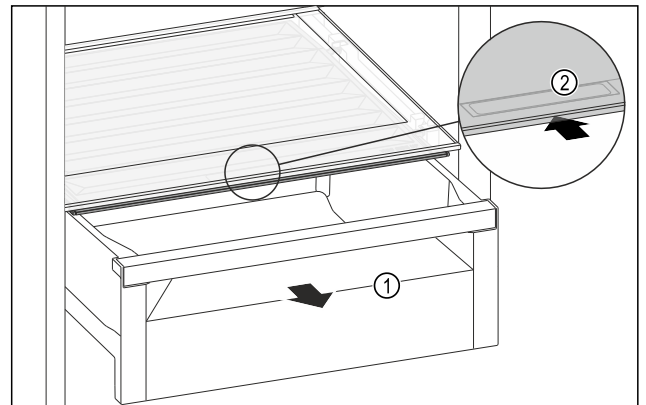

Fig. 124
- Pull out the drawer Fig. 124 (1).
- Grasp the recessed grip Fig. 124 (2) on the compartment lid and push the compartment lid backwards at the same time.